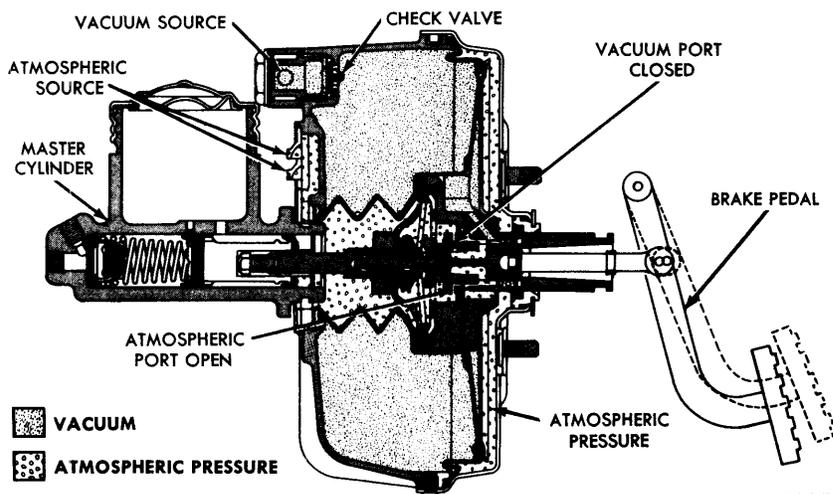

FIG. 1—Booster in Applied Position
5. Working on the wheel side (Fig. 1), compress the prongs on the cable retainer so that they can pass through the hole in the carrier plate. Draw the cable retainer out of the hole.
The booster consists of a vacuum chamber, atmospheric valve, control valve plunger assembly, diaphragm and an atmospheric chamber (Figs. 1, 2 and 3).
As the brake pedal is depressed, the valve operating rod and valve plunger assembly move forward compressing the plunger return spring (Fig. 1). The initial movement of the plunger closes the porting from the vacuum chamber preventing further evacuation of the area back of the diaphragm. Further movement of the plunger forces the atmospheric valve off its seat so that atmospheric